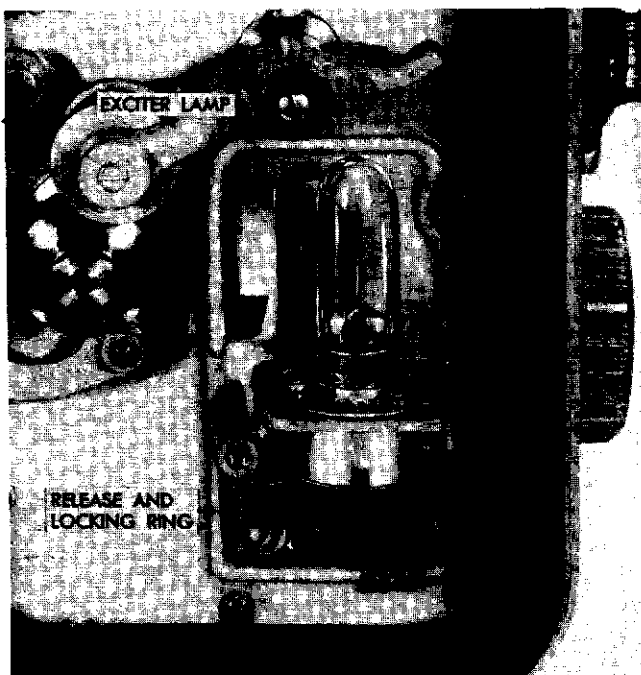

Figure 4-5. Exciter Lamp Exposed
b. Move the exciter lamp release and locking ring (figure 4-5) to its extreme right hand position. This will release the registration pins and permit the lamp to be lifted from the socket.